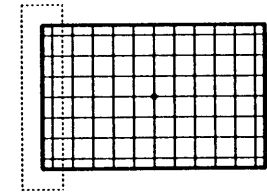

FIG. 11
21. RK60 (S PIN) controls the outer most line on the left hand side. Adjust RK56 to eliminate any bowing and make the blue line as parallel as possible to the green. See Fig. 11.